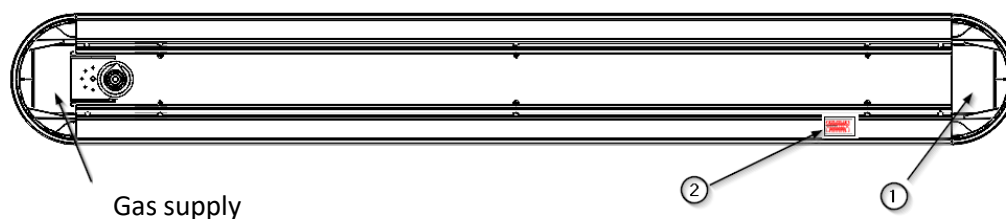

Fig.10 Detail of the electrical connection points at N270
The electrical, voice and data circuits enter the equipment through a window ① located next to one of the side walls. The electrical circuits terminate in a common terminal block ②, except for voice and data, which are connected directly to the corresponding mechanism. See figure 10.